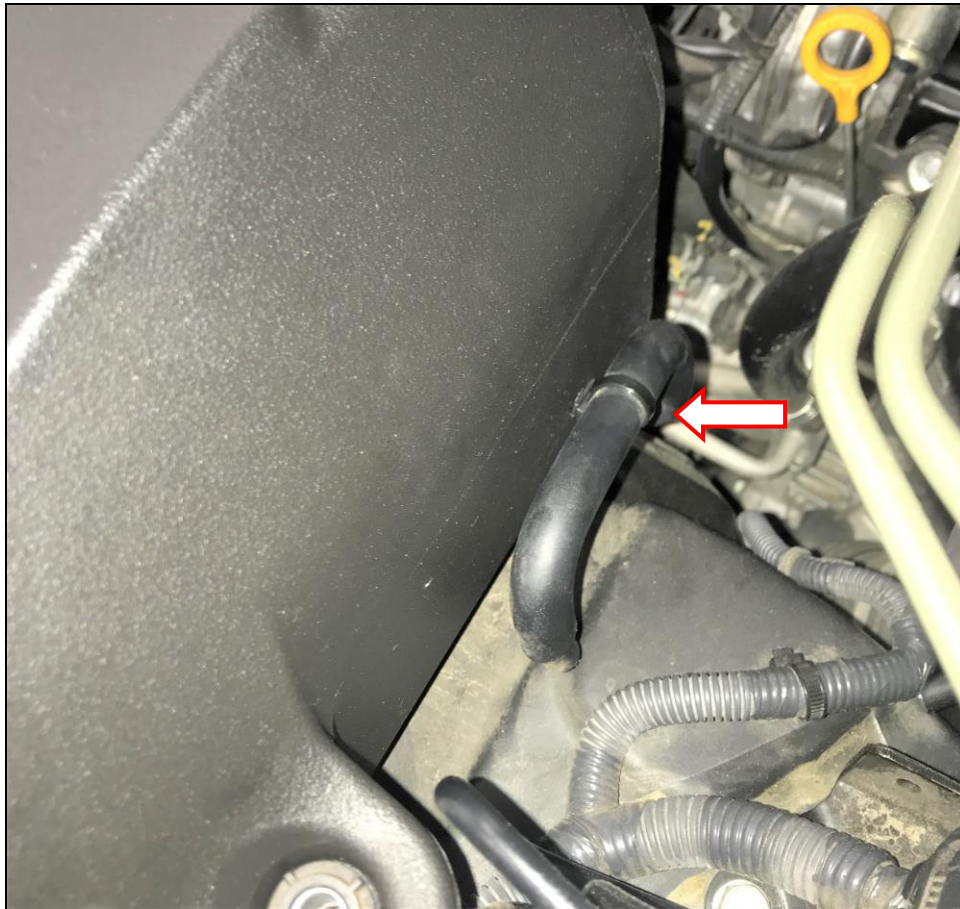

Figure 5
25. If removed in Step 7, reinstall the plastic clip on the vent hose into the hole on the back side of the iNTECH housing (Figure 5).